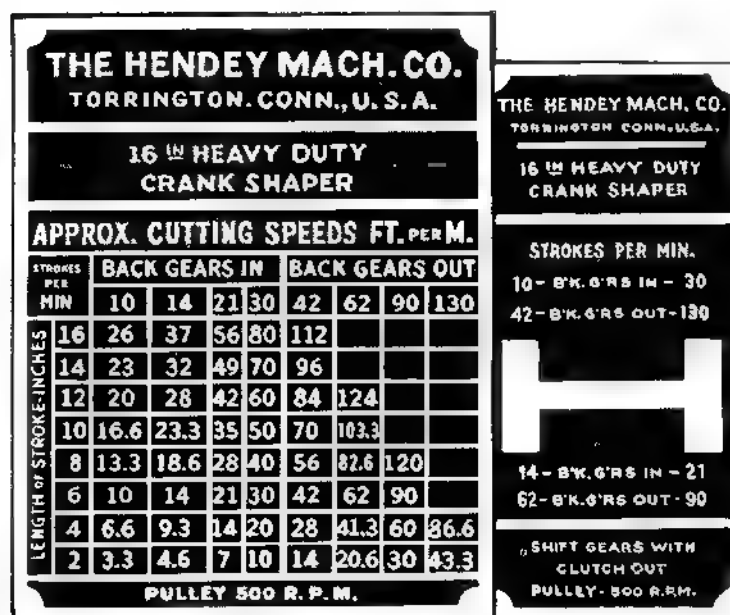

FIG. 76
1. Examine the speed plate shown in Fig. 76. Note that the factors needed to determine the speed of the shaper have been included on it.
5. Locate in the first column (Fig. 76) on the left side of the speed plate the number which corresponds with the length of the ram stroke as indicated on the stroke-index dial.
NOTE: The cutting speeds which result from various combinations of stroke lengths and ram speeds — two factors which determine the cutting speed of the shaper tool — are frequently supplied on a speed chart attached to the shaper, as shown in Fig. 76. In other cases, the manufacturer supplies a table of cutting speeds in an operator's manual. The table shown in Fig. 79 has been reproduced to use in adjusting the speed of the shaper.